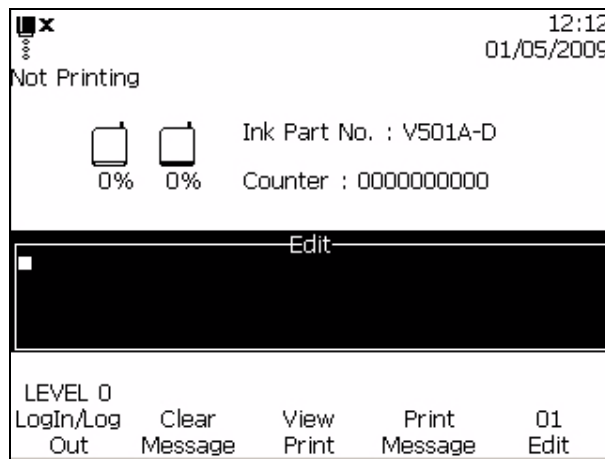

Figure 4-10: <01 Edit> Screen
- 18 Connect the printer to the AC power supply and turn on the printer. The <01 Edit> screen appears (see Figure 4-10 on page 4-9).